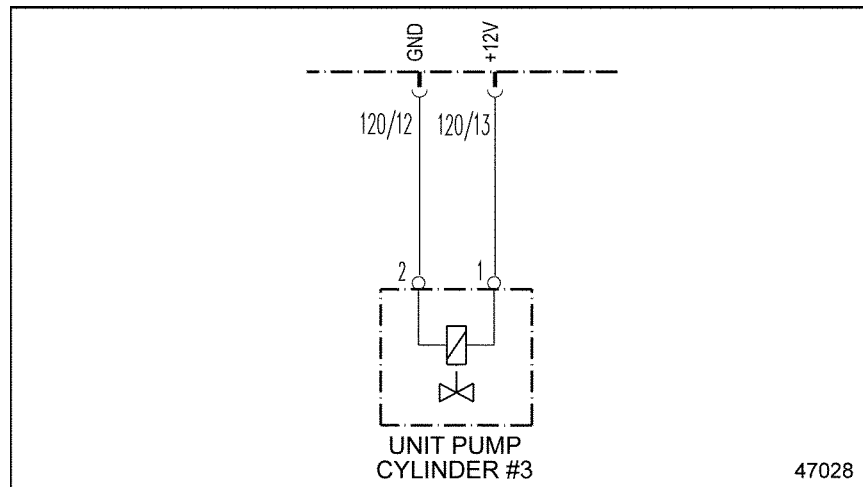

Figure 46-1 Electronic Unit Pump #3
2. Measure the voltage between pins 1 and 2 of Electronic Unit Pump #3. See Figure 46-1.